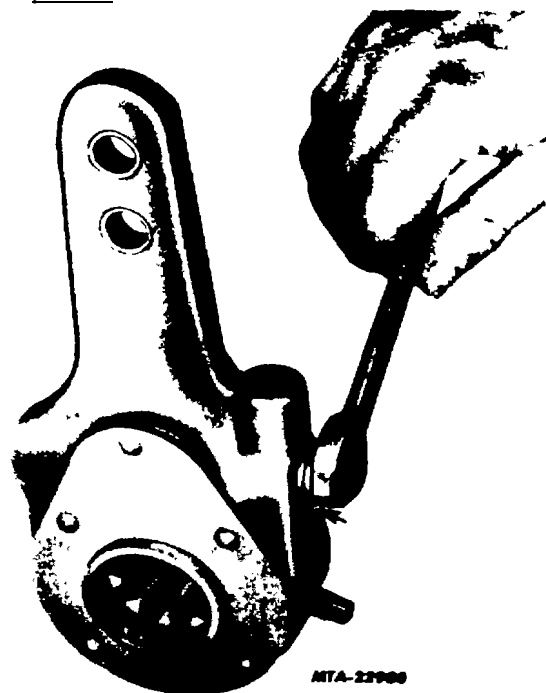

Fig. 1. Slack Adjuster Locking Sleeve on Adjusting Nut
2. Disengage locking sleeve on worm shaft or adjusting screw by depressing spring loaded sleeve with a wrench (Fig. 1).
Fig. 1 illustrates the locking sleeve in its disengaged position. Be sure sleeve is held in, disengaging the adjusting screw when making adjustments.